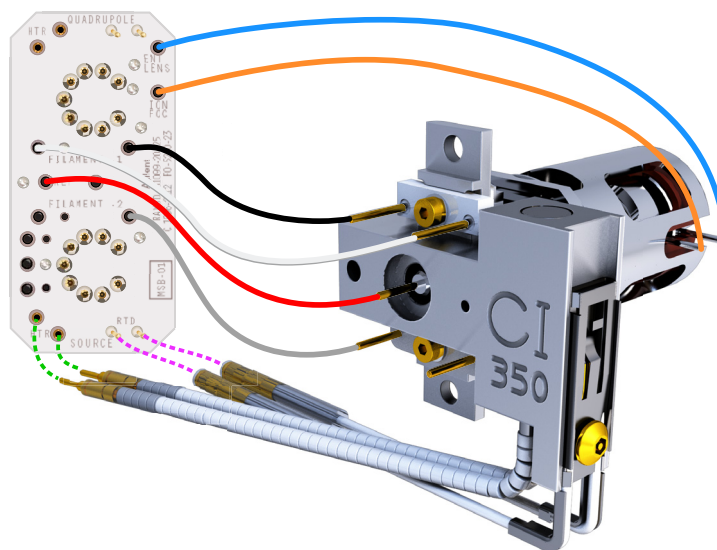

Figure 75. Wiring between the CSB and the source
- 1 Use tweezers or pliers to connect or disconnect the ceramic board wire leads (red, white, black, and gray) at the source connectors. (See Figure 75.)